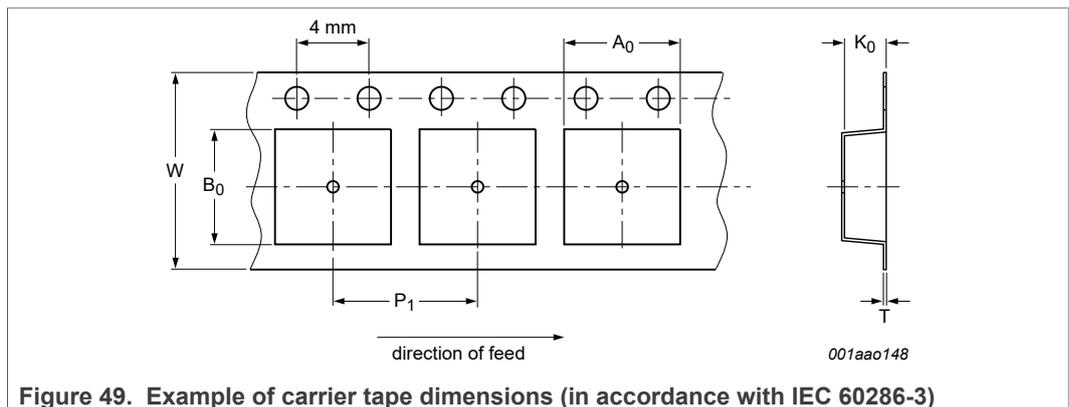

Figure 49. Example of carrier tape dimensions (in accordance with IEC 60286-3)
- Carrier tape dimensions and tolerances (Figure 49 and Table 7)
| | | | Fig. 49. | Example of carrier tape dimensions (in accordance with IEC 60286-3) | 45 |